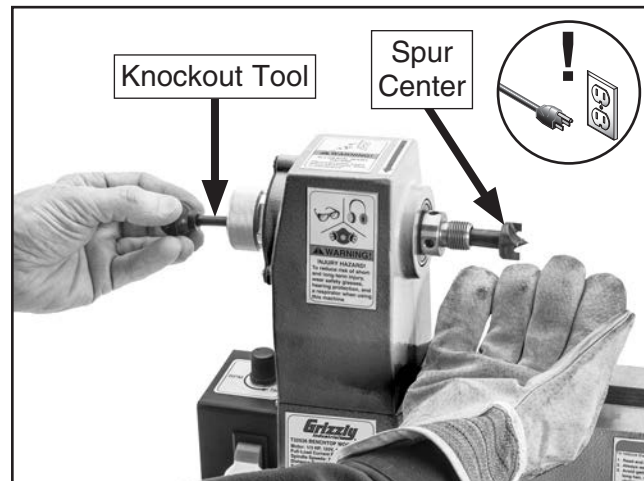

Figure 15. Removing headstock center with knockout tool.
3. Insert knockout tool through outboard end of spindle and firmly tap back of center, catching it as it falls, as shown in **Figure 15**.